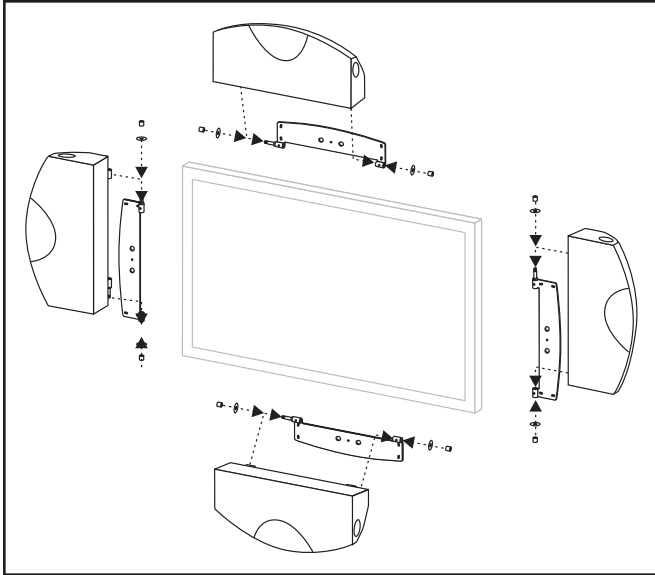

Figure 23. Install the Vignette and the washers and cap nuts.
- 9 Place the Vignette onto the wall bracket and carefully slide the Vignette into place (see figure 23).
- 10 Using a 6mm Allen tool, attach a washer and cap nut onto each pin. Do not fully tighten the cap nuts (see figure 23).